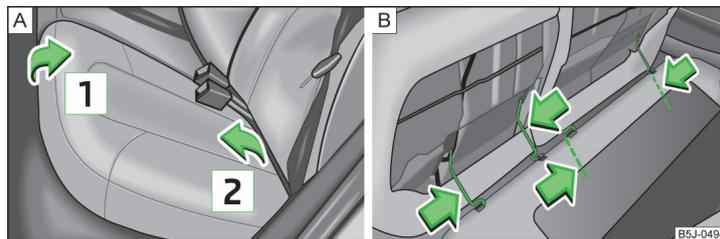

Fig. 58 Folding the seat cushions forwards and removing
- Pull up the seat squab in the direction of the arrow **1** » Fig. 58 and fold forwards in the direction of the arrow **2**.
- Press the wire loops in the direction of the arrow » Fig. 58 - **B** and remove the seat squab from its bracket.
- Press the wire loop in the direction of the arrow » Fig. 58 - **B** and fit it into the bracket.